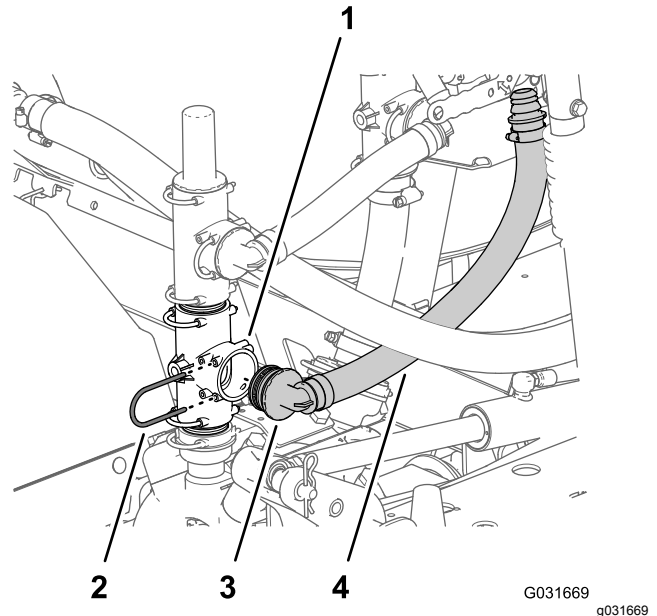

Figure 225
1. Align the other 90° fitting of the supply-hose assembly (Toro Part No. 131-9648) with the open port of the T-fitting at the sprayer pump and insert the 90° fitting until it is seated in the T-fitting (Figure 225).
2. Secure the 90° fitting to the T-fitting at the sprayer pump with the retainer (Figure 225) that you removed in step 1 of Repositioning the Pressure-Relief Valve (page 97).